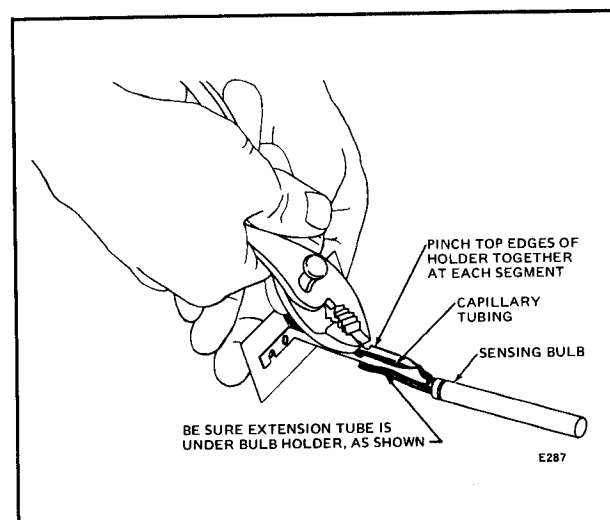

FIG. 6—INSTALLATION OF BULB IN PLENUM BULB HOLDER.
4. Place the capillary of the indoor bulb (bulb with 10 ft [3 m] of tubing) in channel of holder. Make sure bulb is close to channel end of the holder. Pinch top edges of channel together with pliers as shown in Fig. 6.